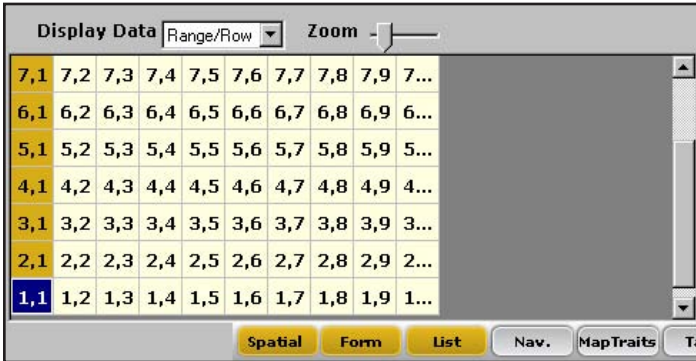

Figure 6-4: Row 1, Range 1 is selected in the Collect Data Spatial space of the screen
- 8. Choose the starting plot location by clicking on the cell. In Figure 6-4, the selected cell is Row 1, Range 1. After you click on the starting plot cell, the screen shows the combine's current location in the field and which plots have already been harvested.